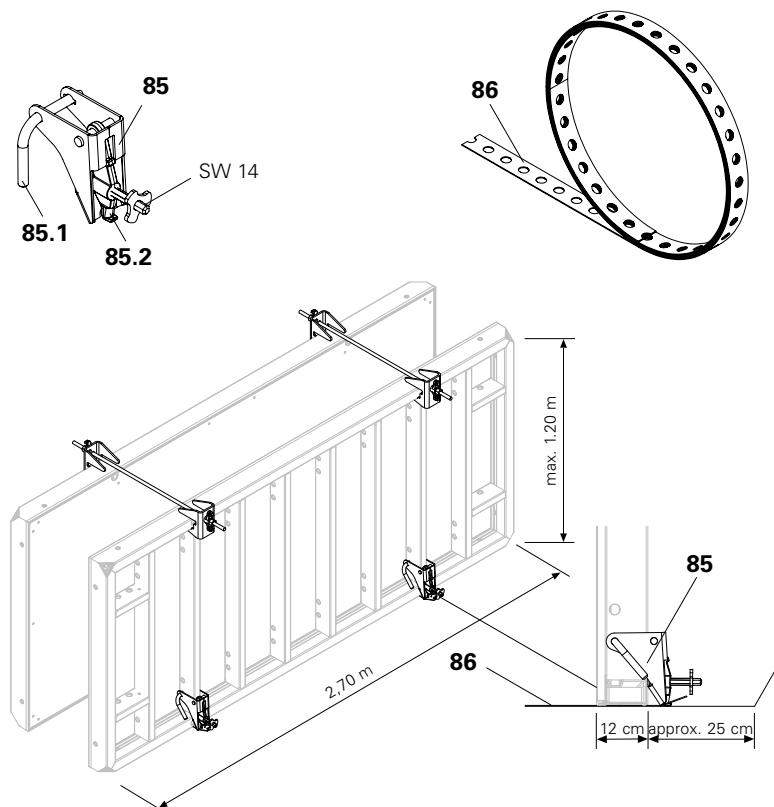

Fig. A15.02
1. Place TRIO panel on the Perforated Foundation Tie (86).
2. Attach Foundation Tie Clamp TRIO TLS (85) to the bottom connection hole by means of bolts (85.1).
4. Tension using ratchet, SW 14. Perm. Tension force: 12.9 kN. (Fig. A15.02)